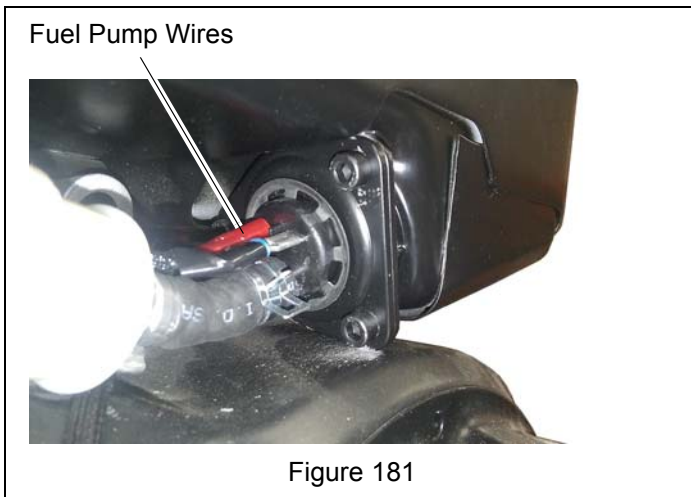

Figure 181
4. Check fuel pump wiring to ensure it is connected correctly. See Figure 181.